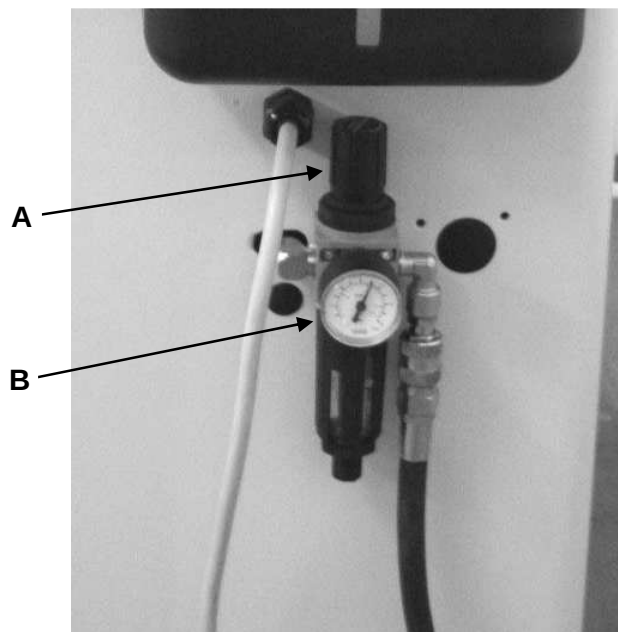

Fig. 09-05
9.5 REGOLAZIONE PRESSIONE INGRESSO ARIA (Fig. 09-05)